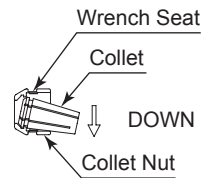
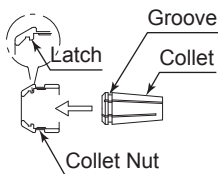
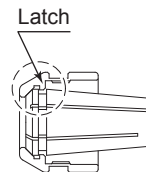

Fig. 4
Fig. 5
Fig. 6
- ② The collet and collet nut are secured by a groove in the collet and a flange in the collet nut. To remove the collet hold the collet nut in one hand and push diagonally down on the collet. The collet should be released (Fig. 4).
- ③ To install the collet, hold the collet at a slight angle, and insert it into the collet nut (Fig. 5). Press the collet in the collet nut by positioning the collet in the collet nut and pressing down on flat surface (Fig. 4). Be sure to fully engage the latch inside the collet nut into the groove on the collet's outer circumference area (Fig. 6).